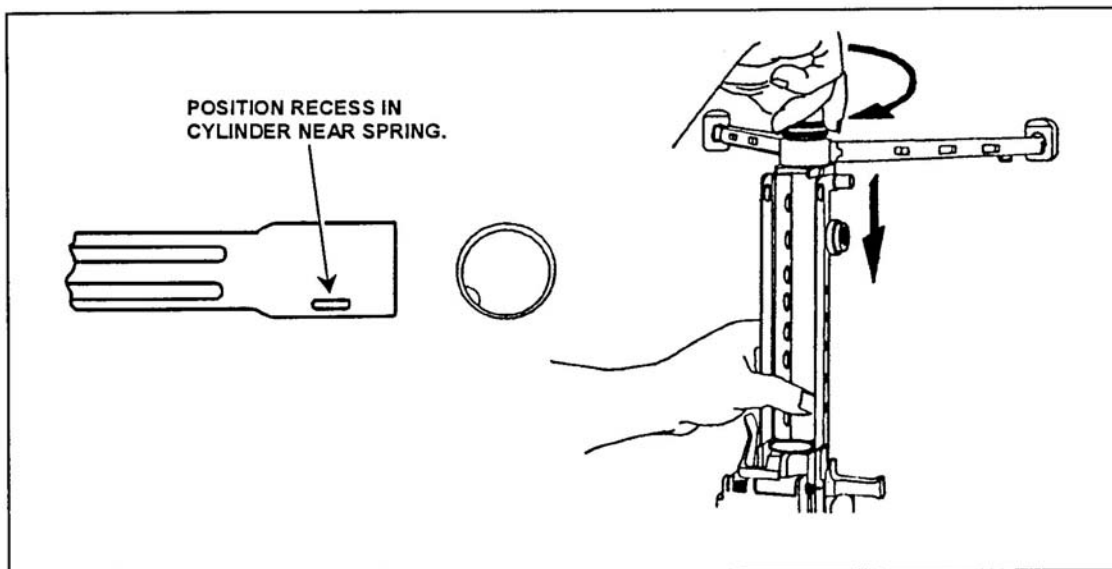

Figure 22. Replacement of the bipod and gas cylinder.
- (1) Place the bipod on the receiver.
- (2) Push the gas cylinder through the bipod yoke into the receiver.
- (3) Push the cylinder to the rear while countering the pressure of the locking spring and guiding the end of the cylinder into the receiver with the other hand applying downward pressure. When you have fully inserted the gas cylinder, rotate it until the spring clicks into place in the recess at the rear of cylinder (Figure 22).